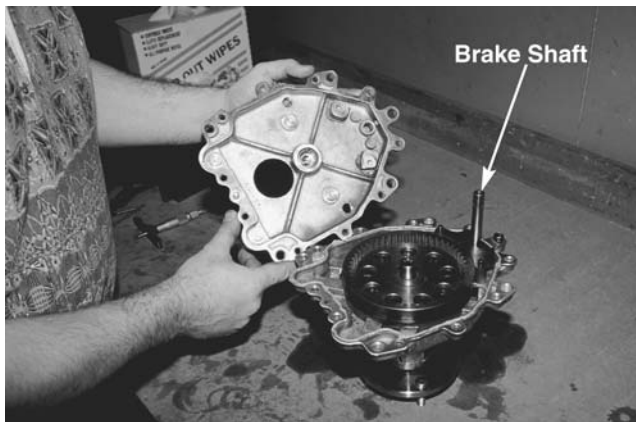

Figure 10-71.
31. Before installing the smaller housing place a light coating of oil on the brake shaft and check to be sure the needle bearing is lubricated. See Figure 10-71.